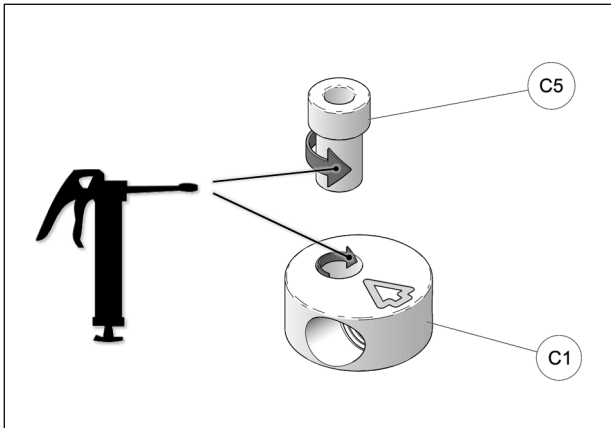

Fig. 16
8. Apply grease evenly all around step spacer bushing (C5) and in hole of aluminum disk (C1) when assembling these parts together. See Fig. 16